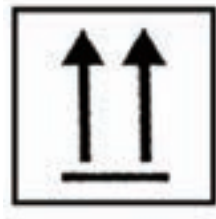

FIG 9-1
2.2 The shipment should be vertical upward as shown in the figure 9-1.